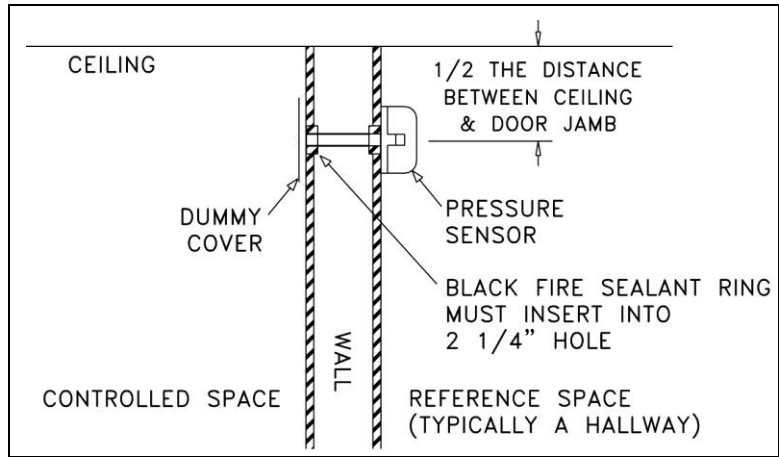

Figure 3: Cutaway View of Mounted Pressure Sensor
WARNING: 801912 pressure sensor must be mounted through the wall between the controlled space (clean room) and referenced space (hallway), exactly as shown in Figure 3 and 4.
7. From the side of the wall the sensor will be mounted, slide the sensor tube through the wall. Slide the dummy plate over the end of the tube. Screw the pressure sensor base and dummy plate to the wall (Figure 3).